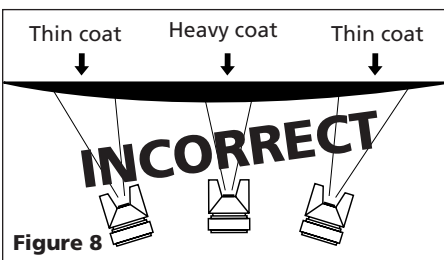

Figure 8
- Keep the nozzle about 6 to 9 inches from the work surface throughout the stroke and always keep the gun in motion while spraying. Stopping gun movement in mid-stroke will cause a build up of paint and result in runs. Do not fan the gun from side to side while painting. This will cause a build-up of paint in the center of the stroke and an insufficient coating at each end (See Figure 8).